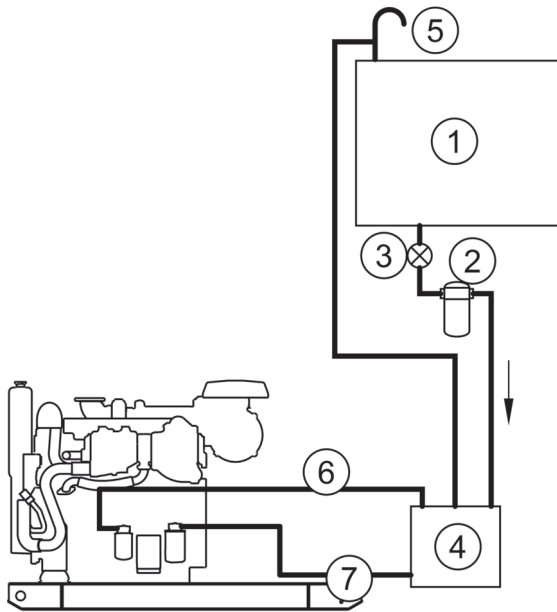

Figure 24
Figure 24 shows a system where the day tank is below the main fuel tank and therefore uses gravity to supply fuel to the day tank.
In some cases it is necessary to have a number of fuel tanks in order to achieve the required operating range. In such cases, where possible, one tank should be regarded as the main tank for each engine and the other tanks should be arranged so that they will drain into the main tank by gravity. If a gravity system is not possible, then the system shown in figure 24 should be used.
Figure 24 shows a collector tank (item 1), fed by all the storage tanks and connected to the engine feed and return systems, but with a vent pipe (item 5) taken to any convenient tank and connected to it at the highest point. The fuel feeds (item 7) should be taken from the bottom of the collector tank and the fuel returns (item 6) at the top.